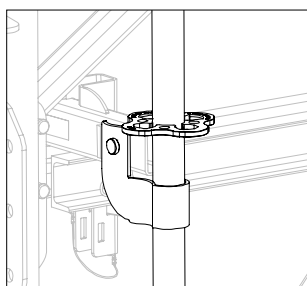

Fig. B6.02a
1. Place Standard UVR 300 (46.1) (for VST 175: Standard UVR 150 (46.2)) with the rosette on the Connector UP-VST (38).
2. Mount retaining lug (38.1) to the bottom Connector UP-VST (38) using Bolts \varnothing 20 x 140 (39) and secure with Cotter Pins 4/1, galv.
3. Mount retaining lug (38.1) to the top Connector UP-VST (38) using Bolts \varnothing 20 x 140 (39) and secure with Cotter Pins 4/1, galv.
Here, the rosette has to rest on the Connector UP-VST (38) in order to safely transfer the forces. (Fig. B6.02a)